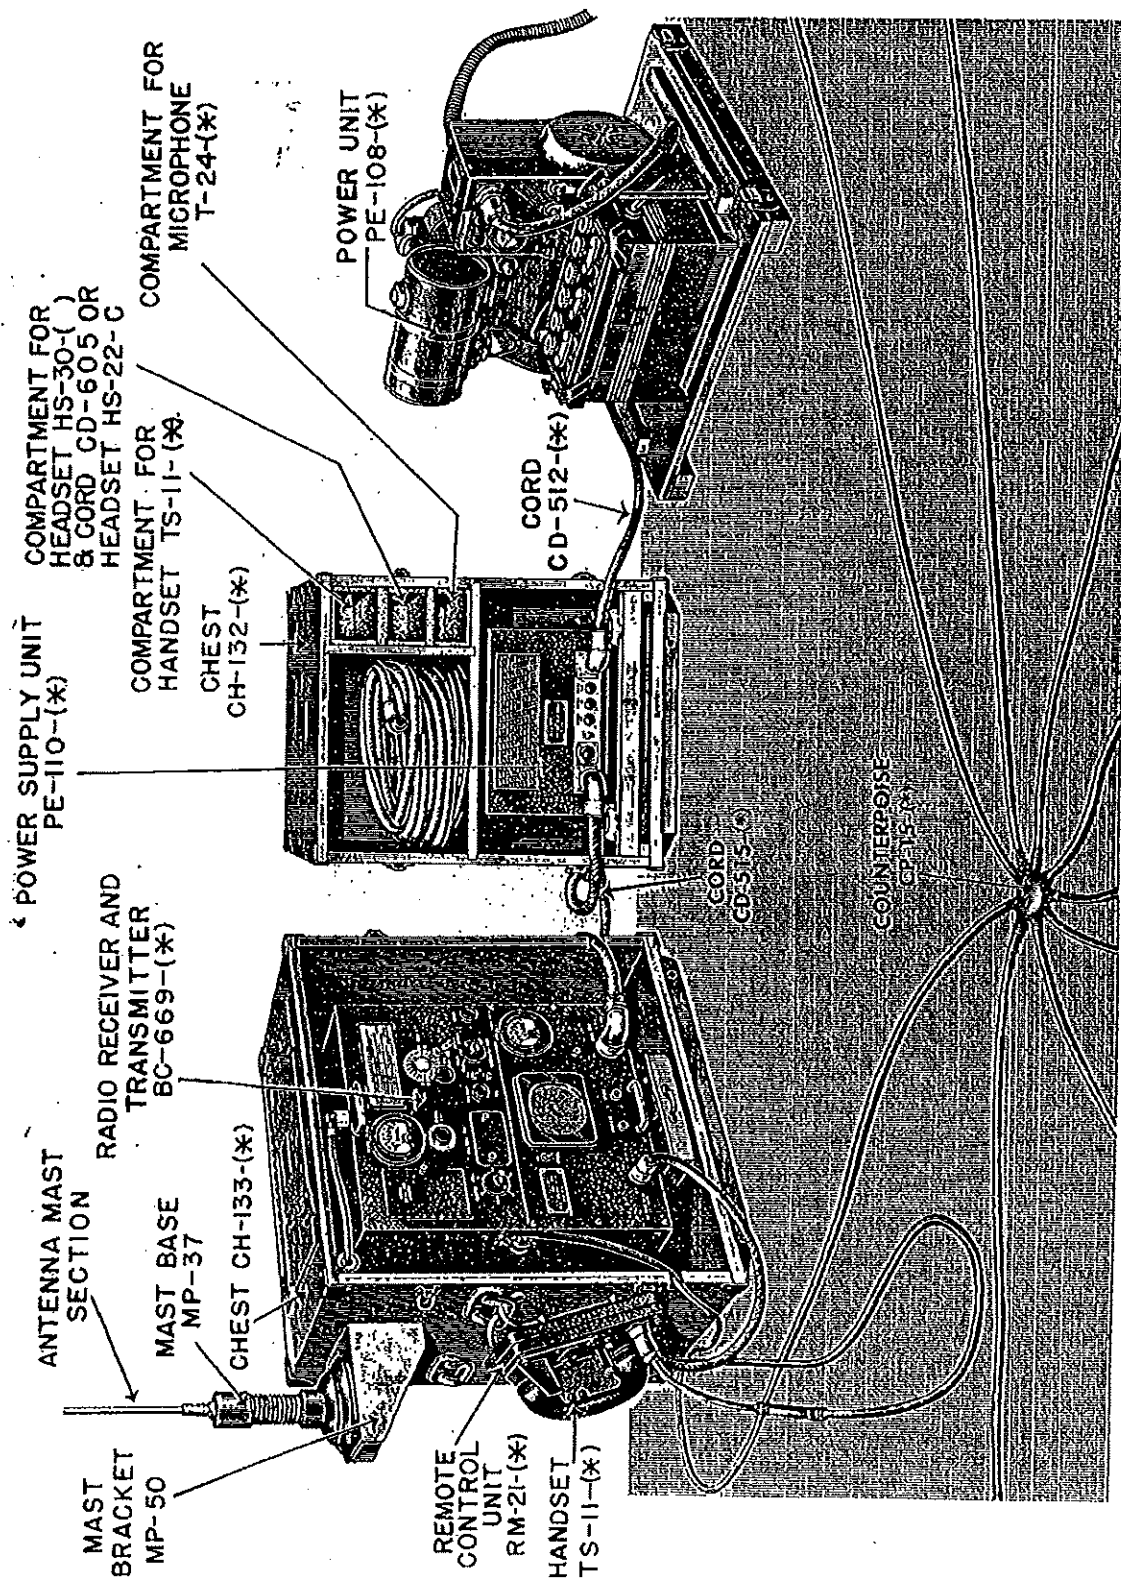

Fig. 2 - Radio Set SCR-543(*), Operating Components.
2. COMPONENTS, WEIGHTS AND DIMENSIONS.—(See figures 2 and 6) Radio Set SCR-543-(*) is composed of four chests with contents. These are:
the front panel for indicating modulator plate current, radio frequency power amplifier plate current or grid current which may be selected with a three position switch recessed behind the panel below the meter. A removable plate is provided to cover the recess. A handle is provided on the upper and lower panels for lifting the unit. (See figures 2 and 3.)